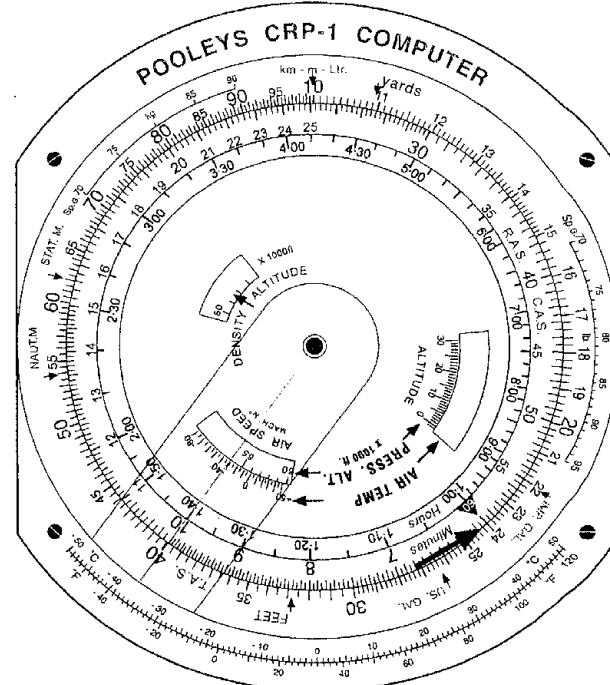

fig N85
Above 1 on the rotating inner scale, read off 40 (400) on the fixed outer scale (fig N85).